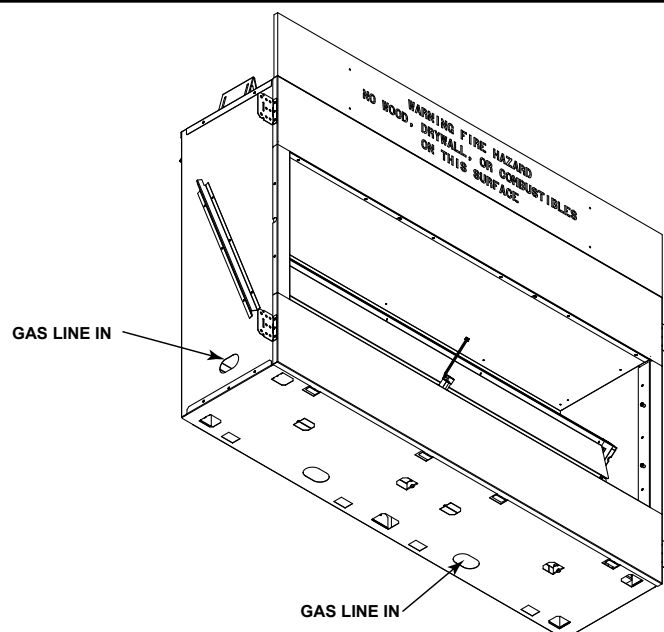

Figure 5.3 - Gas Line In
A manual shutoff valve must be installed upstream of the appliance. Union tee and plugged $\frac{1}{8}$ " NPT pressure tapping point should be installed upstream of the appliance. Figure 5.3
A sediment trap should be installed upstream to prevent moisture and contaminants from passing through the pipe to appliance controls and burners. Failure to do so could prevent the appliance from operating reliably. Figure 5.3
- Gas line may be run through the left side or right bottom of the appliance. See Figure 5.3.